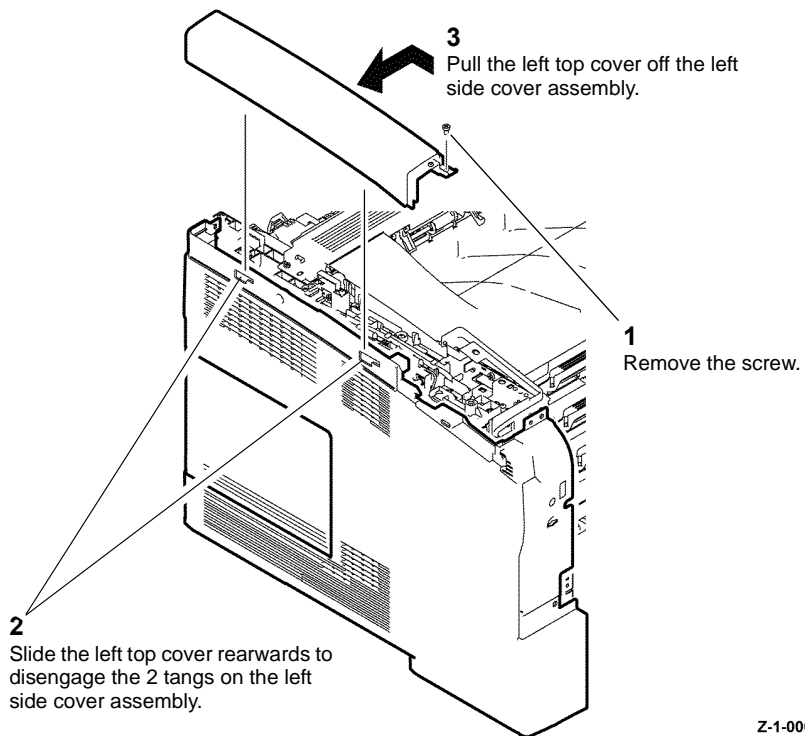

Figure 1 Top left cover removal C400
3. Remove the top left cover, Figure 1.